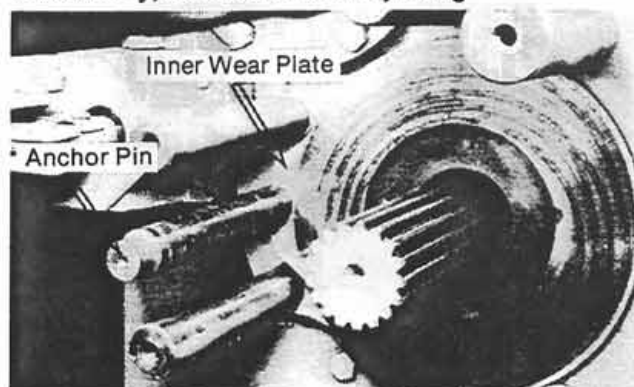

Figure 15:
1. With the brake plate/bearing cap with support pins already mounted, install the anchor pin and inner wear plate with its grooved side facing the transfer case (Fig. 15).